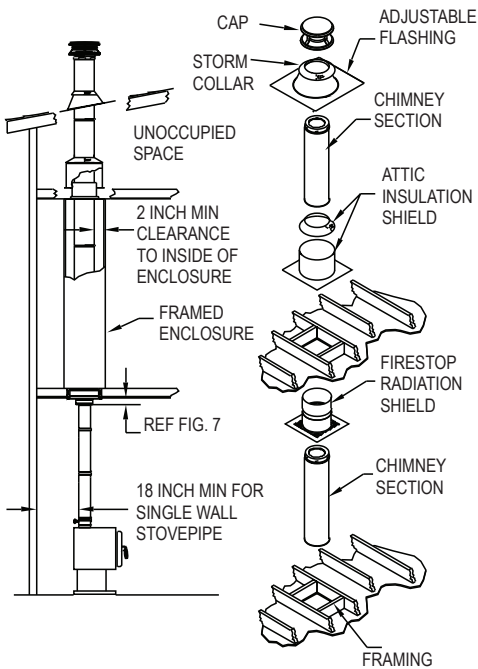
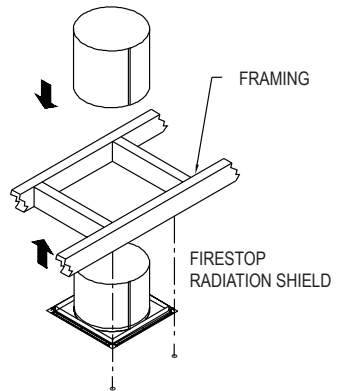

Figure 10
Figure 11
4. **Frame Openings:** Frame openings in each ceiling or floor above the Support Box (**Fig.10**). These openings are to hold the Firestop Radiation Shield and Attic Insulation Shield. Locate each opening by dropping a plumb bob to the four corners of the opening below. Maintain the framing dimensions as specified in **Table 1**. **Warning: other than the framing for the Reduced Clearance Support Box, any combustible materials around the chimney must meet the minimum 2" clearance requirement.** If Elbows must be used to avoid an obstruction, refer to the Offset Elbow Installation section.
Box is in the 1st floor ceiling), you would need a Firestop Radiation Shield at the 2nd floor ceiling, and at the 3rd floor ceiling, etc., including where the chimney penetrates into the attic. **Fig.10** shows a typical 2-story installation with an attic. Note: a Firestop Radiation Shield is not installed where the chimney penetrates through the roof. The Firestop Radiation Shield is installed on the underside of the ceiling/floor framing, with the cylindrical “tube” portion of the shield pointing upward. (**Fig.11**). Use a minimum of either (1) 8 penny nail or (1) #8, 1-1/2” wood screws per corner. Refer to **Table 1** for framing requirements.
B4. Slip the Attic Insulation Shield over the Chimney and Firestop Radiation Shield until the base sits squarely on the framed opening (**Fig.10, 13**). If desired, non-combustible insulation may be installed in the Attic Insulation Shield. Before installing, add a 2" thick blanket of insulation around the inside of the Attic Insulation Shield, then slip over the Chimney.